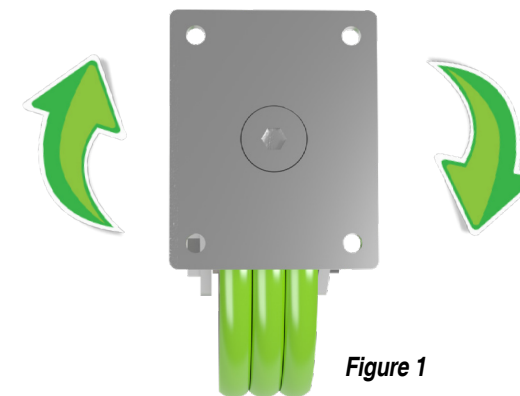

Figure 1
2. Rotate the casters swivel section as seen in Figure 1